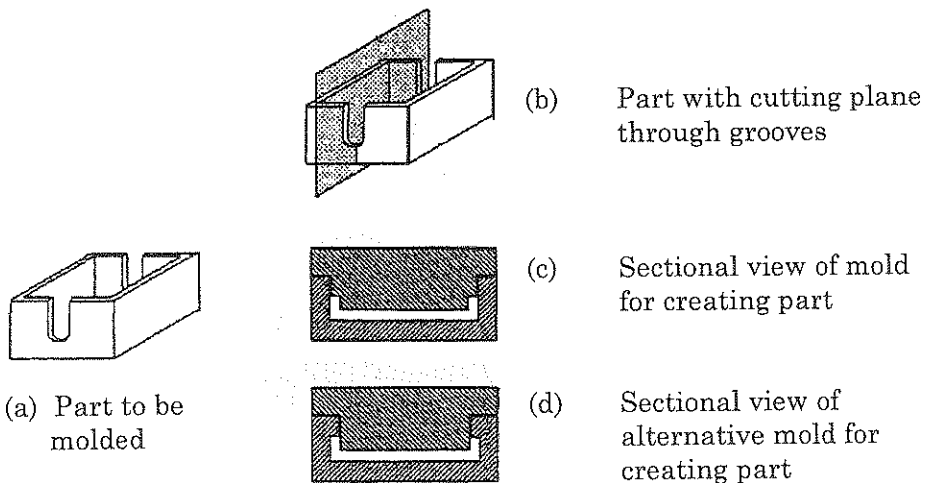

Fig. 4 Injection moulded part
- (b) Figure 4a shows an injection-moulded part with two grooves in the side walls. These grooves as you may recall, are called side shutoffs. Figures 4 (c) and 4 (d) shows two alternative mould designs for producing the part. From the point of view of machining, which mould is less costly to produce? Are there any difficulties, other than machining difficulties with either of these moulds?